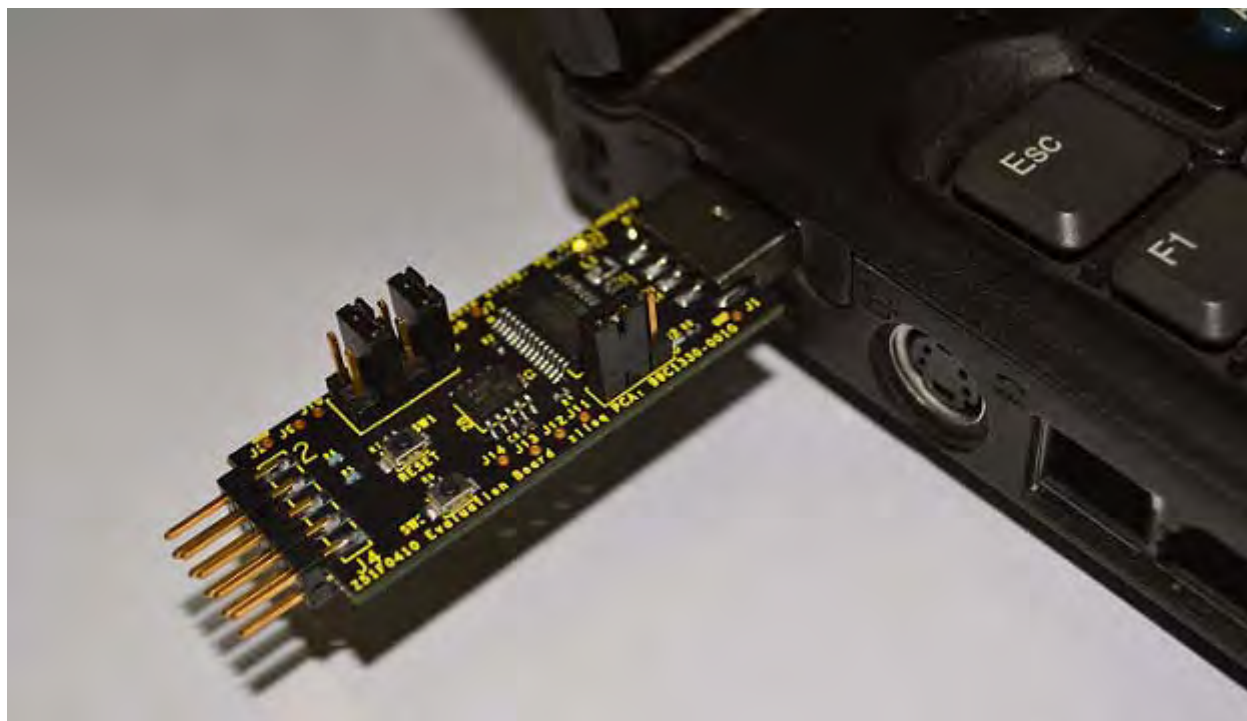

Figure 13. Connecting the Evaluation Board's P1 Port to the USB Port
4. When the installation is complete, plug in the Board's P1 connector into the USB port of your PC. Refer to Figure 13 on page 16 for guidance.
5. Connect P1 on the Z51F0410 Board to the host PC's USB port to apply power to the Board, as shown in Figure 13.